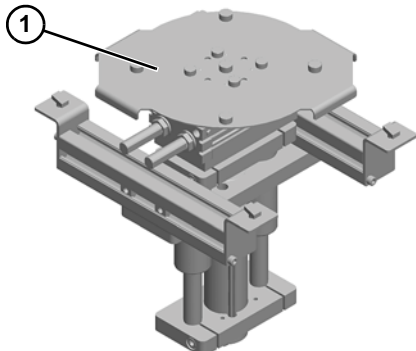

Figure 51
1. Remove lift and rotate plate (**Figure 51, item 1**).